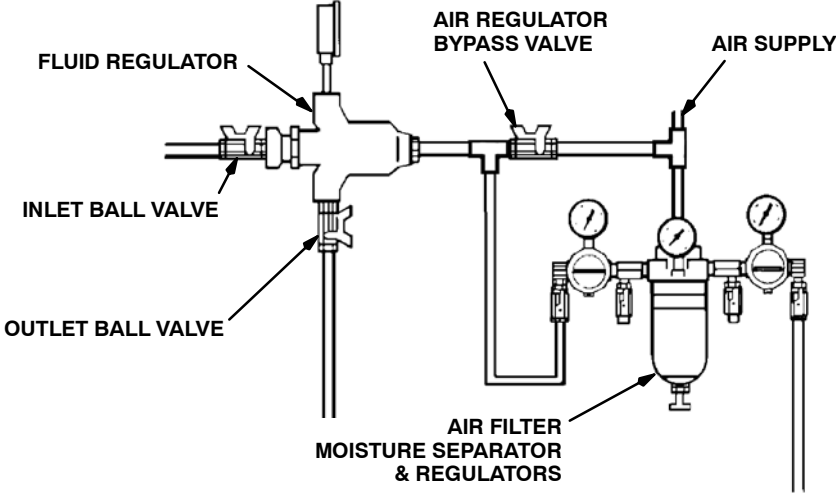
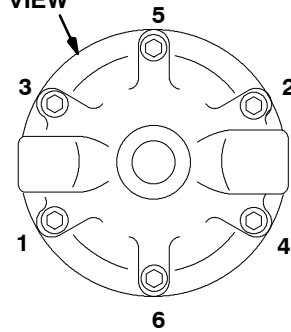

Fig. 2
Fig. 4
1. Start the pump and open the fluid regulator's inlet ball valve to admit fluid to the regulator. See Fig. 2.
**NOTE:** Make sure the air bleed hole in the air line fitting (29) is not plugged. Refer to page 12.
2. Close the ball valve at the regulator's air inlet. Refer to Fig. 2.
5. Remove the swivel union (23) and spring (40) from the regulator body.
6. Remove the ball (20), seat (16), and gasket (15). See Fig. 4.
10. Remove the spring (3), valve stem (9), and gasket (21) from the stem housing (18).
12. Place stem housing (18) in a vise. One at a time, place the gasket (26), diaphragm (22) - *white PTFE side down toward the bottom housing*, and washer (17) on the stem housing (18). Secure them with the jam nut (13). Torque the jam nut onto the stem housing to 21-35 ft-lb (28-47 N•m).
13. Install the valve stem (9), spring (3), gasket (21), and retaining screw (10) in the stem housing (18). Make sure the tab on the valve stem (9) fits into the slot on screw (10).
15. Install the assembled parts in the housing (6).
16. On Model 214980, tighten the air line fitting (29) into the cap (7). Torque to 21-35 ft-lb (28-47 N•m).
17. Install the cap (7). Tighten the six cap screws (1) in the sequence shown in Fig. 4, **Bottom View**, and to the torque noted.
18. Install the gasket (15), valve seat (16), and ball (20) into the housing (6).